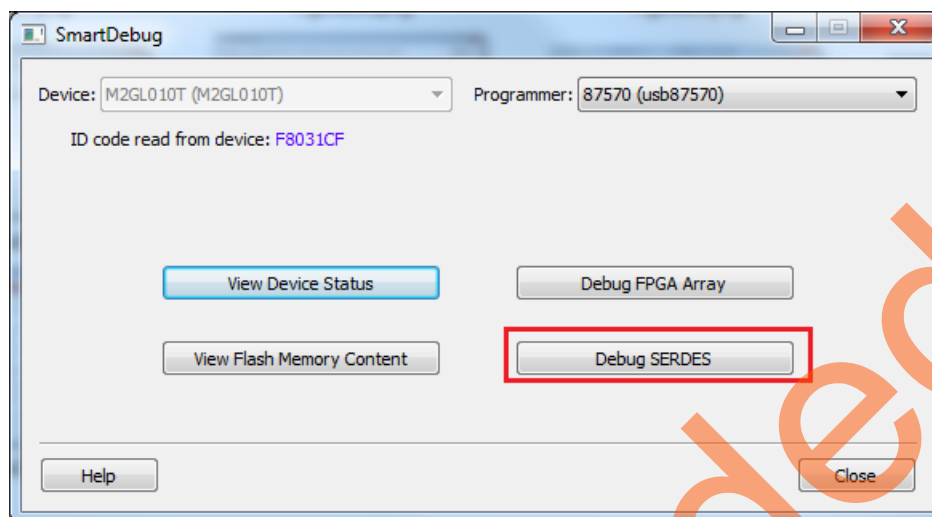

Figure 2-19 • Debug SERDES Operation Selection
1. Select **Debug SERDES** from the SmartDebug Graphical User Interface, as depicted in Figure 2-19.